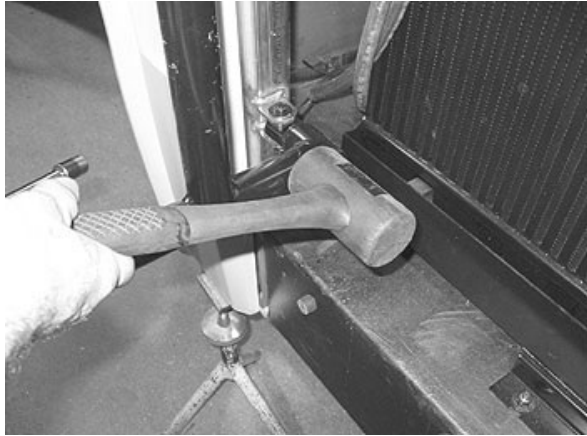

FIGURE 84: PANTOGRAPH ARM ADJUSTMENT
2. Using a rubber mallet, adjust the lower part of pantograph arm in order to get 4 ± 1 mm between lateral panel and engine door (Refer to Figure 84 and Figure 85).